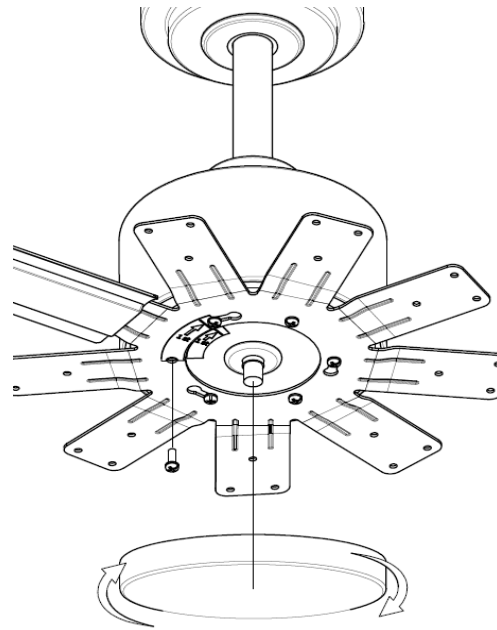

Fig. 11
- Finally install the bottom cover to the shaft of the motor by rotating it clockwise. Fig.11